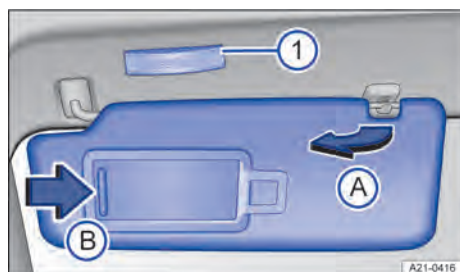

Fig. 88 In the roof at the front: Sun visor
2. Pull out of the bracket and swing over towards the door → Fig. 88 Ⓐ.
1. Slide the cover open in the direction of the arrow → Fig. 88 Ⓑ.
The light → Fig. 88 ① will go out when the vanity mirror cover is pushed back or the sun visor is folded back up.